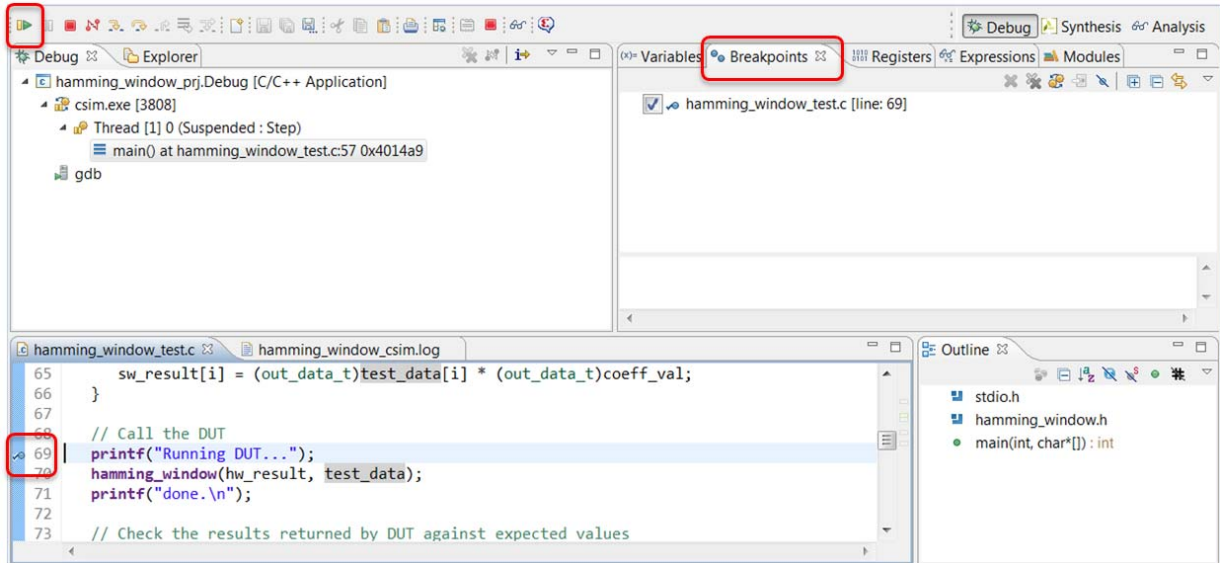

Figure 3-10: Using Breakpoints
8. Place the cursor in the left-hand margin on line 70, right-click with the mouse button and select Toggle Breakpoint. A breakpoint (blue dot) is indicated in the margin, as shown in Figure 3-10.
9. Activate the Breakpoints tab, also shown in Figure 3-10, to confirm there is a breakpoint set at line 70.
10. Click the **Resume** button (highlighted in Figure 3-10) or the F8 key to execute up to the breakpoint.